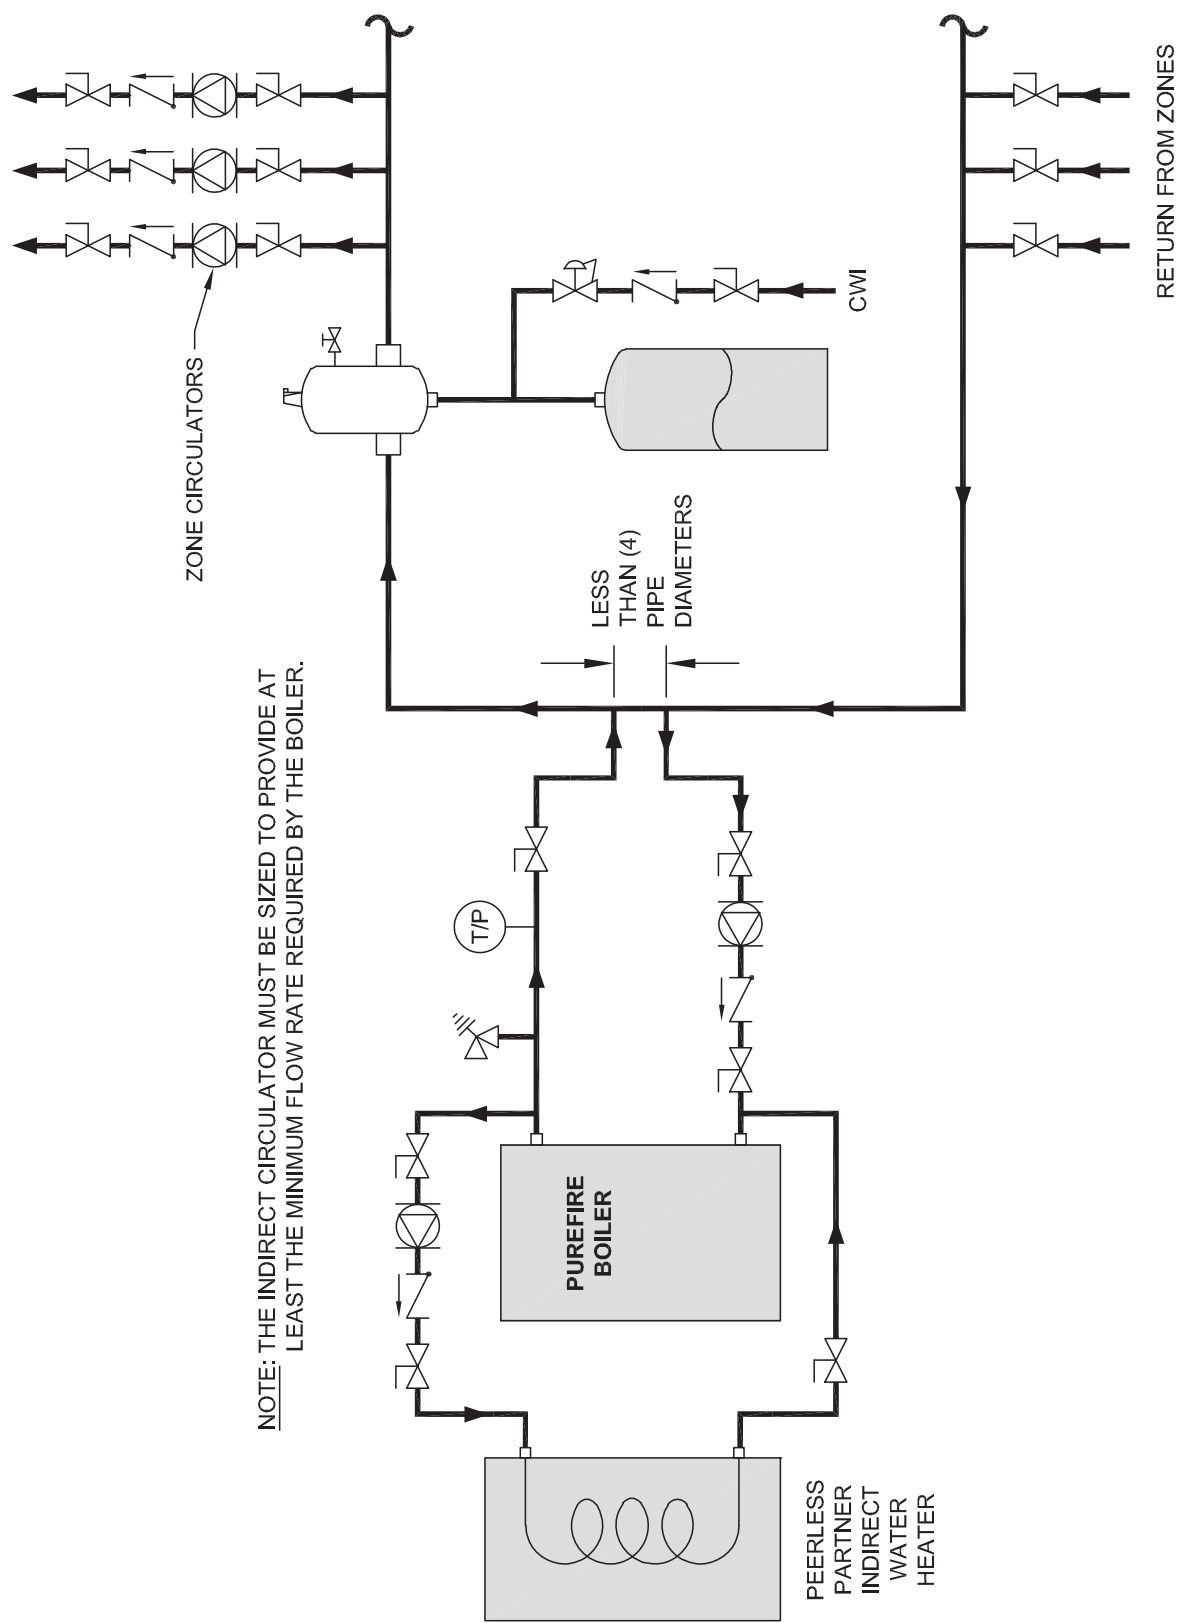

Figure 4.5: Alternate Piping – One Boiler with Multiple CH Zones & One DHW Tank
2. An alternate piping schematic for piping an indirect water heater, such as the Peerless® Partner®, is depicted in Figure 4.5. Note that, in this configuration, the circulating pump for the indirect tank must be sized to provide the minimum flow rate of the boiler. In this configuration, both the GEN and CH circulation pumps should be wired to the CH Pump output on the terminal strip. This is required to prevent the General (Boiler) pump from running when a DHW demand is being satisfied. The total load of CH and GEN pumps must not exceed 10 amps. If the load is higher, then an isolation relay must be used.